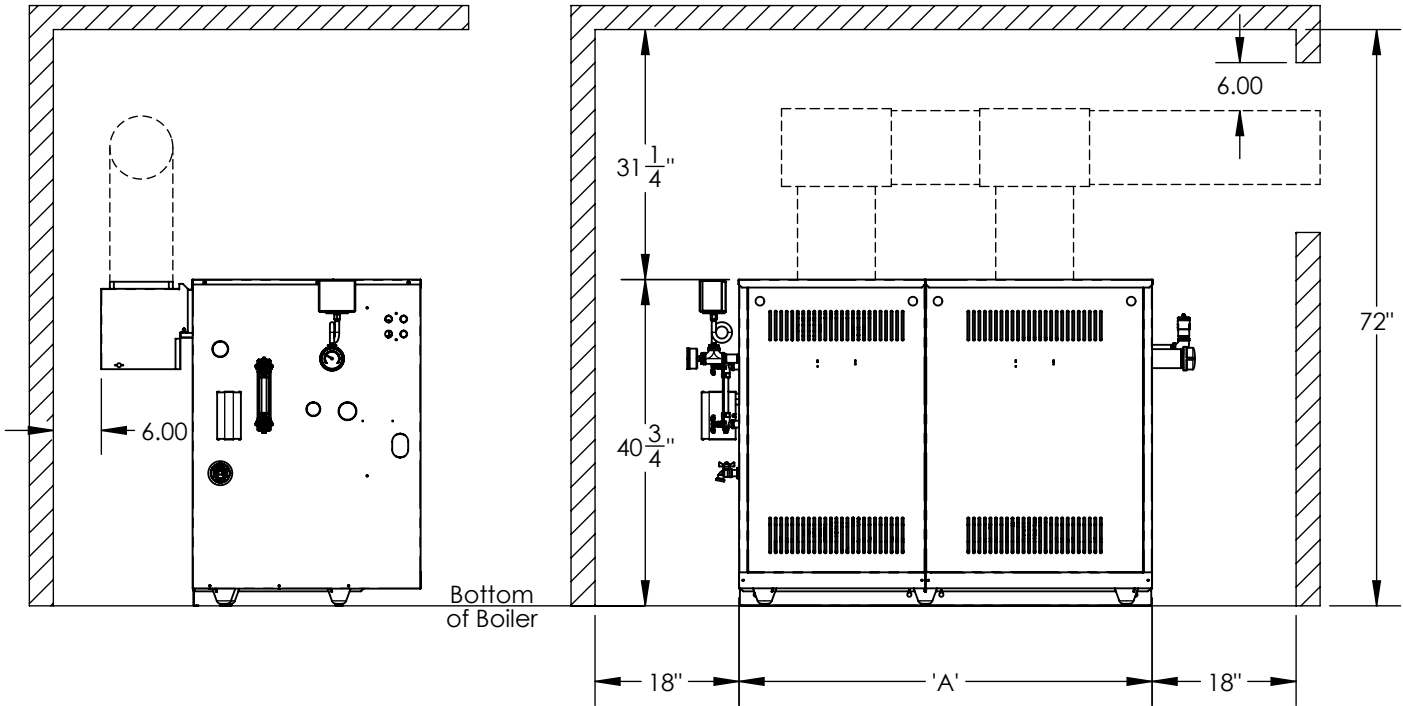

Figure 4-3: Minimum Alcove Clearances STMX350 through STMX550
- A. See Figure 3-5 and Table 6-4 for vent sizes and locations. See Figure 4-3 for clearances.